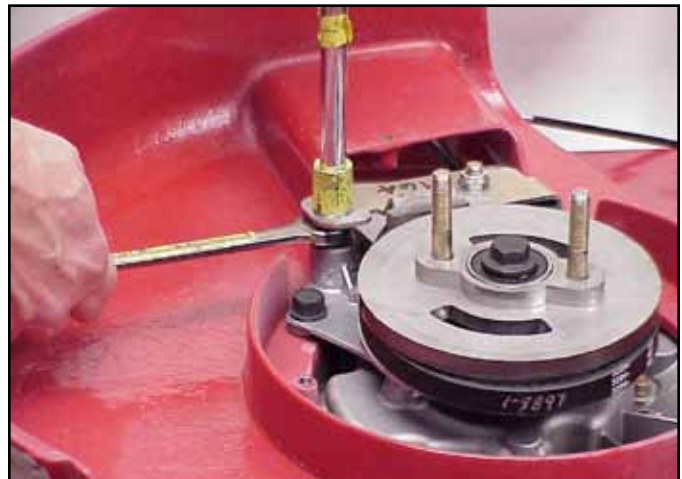

Fig 242
6. Remove the brake pivot bolt. You will need a second wrench to hold the bolt head (Fig. 242).